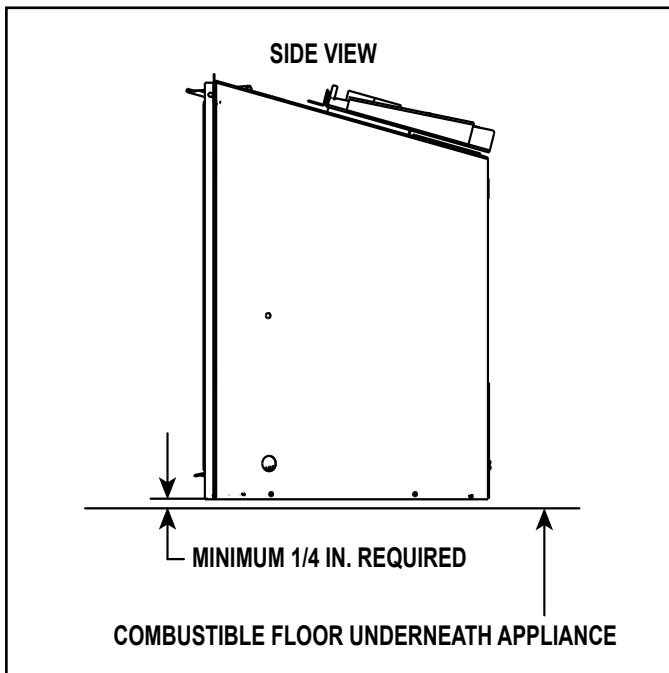

Figure 3.19 Solid Fuel Combustible Floor Clearance
- A minimum 1/4 inch gap from the bottom of the appliance to the metal floor of the solid fuel firebox is **REQUIRED**. See side view in Figure 3.19.
- Combustible flooring underneath the appliance is acceptable with a 1/4 inch gap. See Figure 3.19.